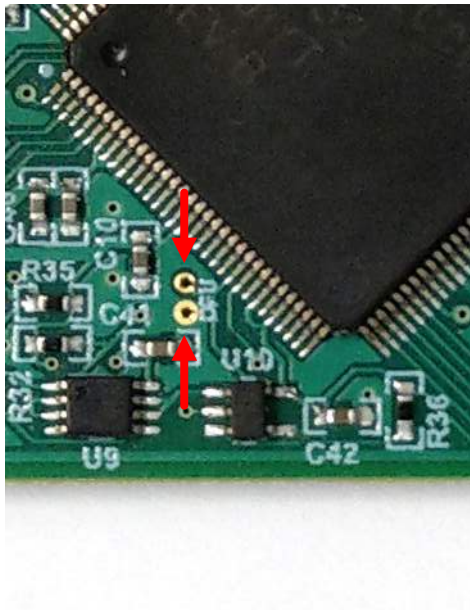

Figure 4-3. Test Points Used to Enter DFU Mode Manually
- While shorting the two test points labeled *DFU* (shown in Figure 4-3) with a pair of tweezers (or wire), press and release the RESET button.